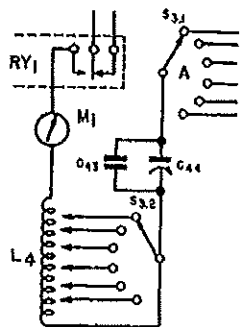

Fig. 23
- (3) See Fig. 23 for change in BC-669-A.
tuning variable capacitor C_{44} and antenna loading coil L_4 . The loading inductance is varied by means of a set of sliding contacts on coil L_4 which are selected with switch section $S_{3,2}$. The transmitter antenna circuit is opened in receive position by a set of contacts in relay RY_1 . (In SCR-543-A, some early units had antenna ammeter M_1 connected on the antenna side of antenna loading coil L_4 . See Fig. 23.)